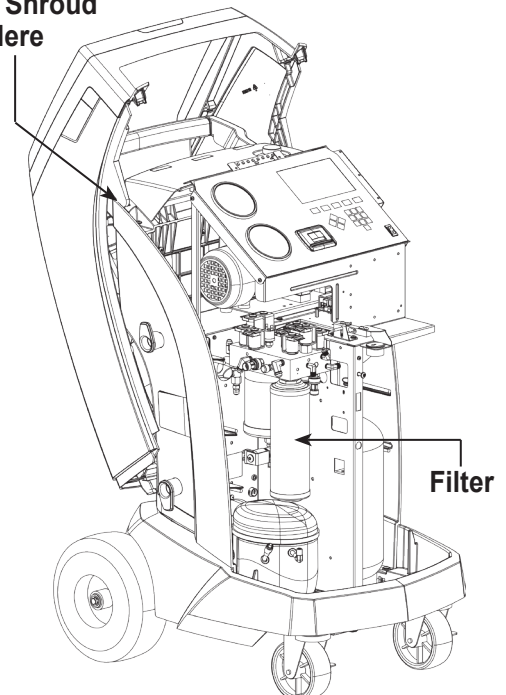

Figure 11
3. Hang the shroud on the back of the machine as shown in Figure 11.